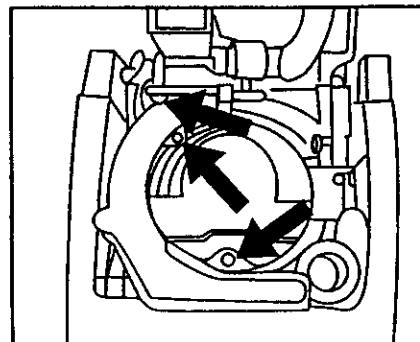

Fig. 9
1. Remove (3) screws (Fig. 9) and lift out of position.